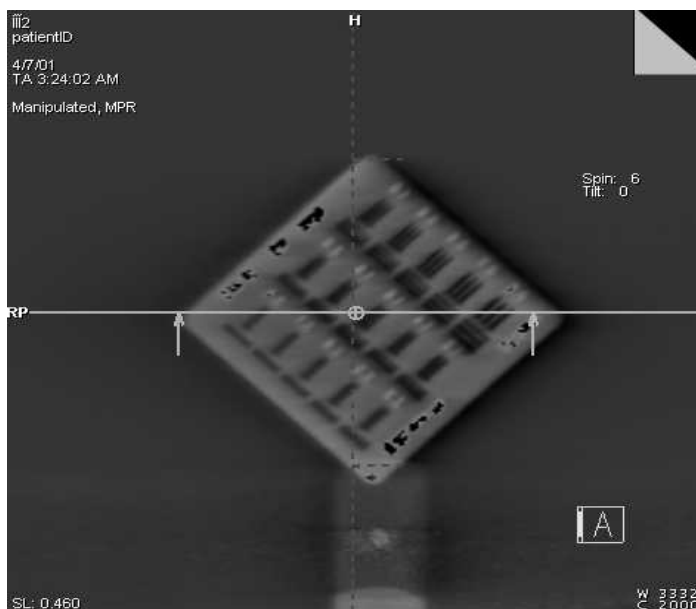

Fig. 17 Plane parallel to the lead strip test pattern.
- Next, by double clicking on the image "Slice parallel to lead strip test pattern," create a full-field display of the lead strip test pattern (Fig. 17).